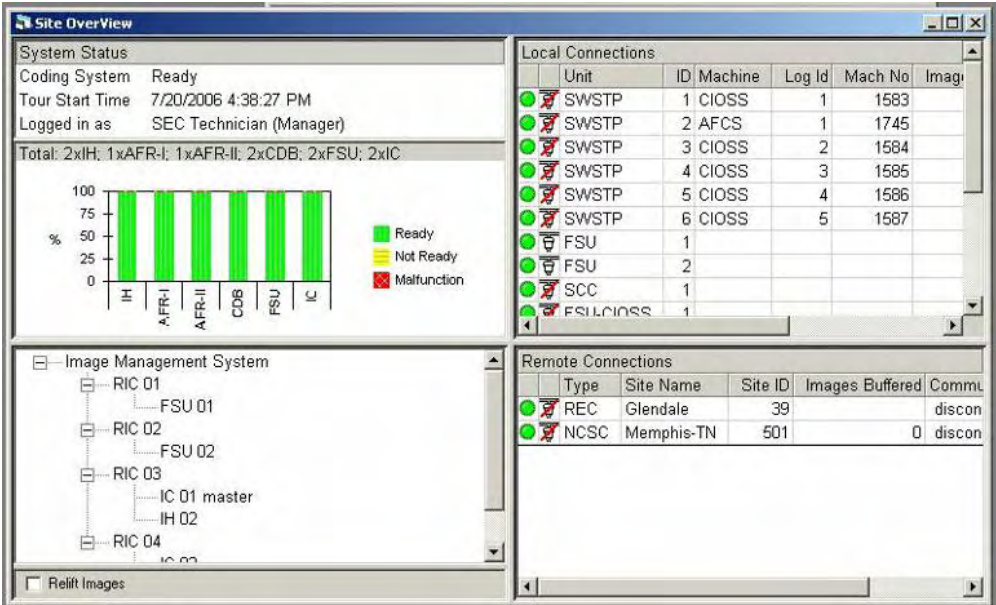

Figure 1-270. System Status Control
- 49. If not already opened, open the Site Overview frame by selecting **Control** and **Siteoverview** on the PARS Supervisor UI menu bar (Figure 1-270).